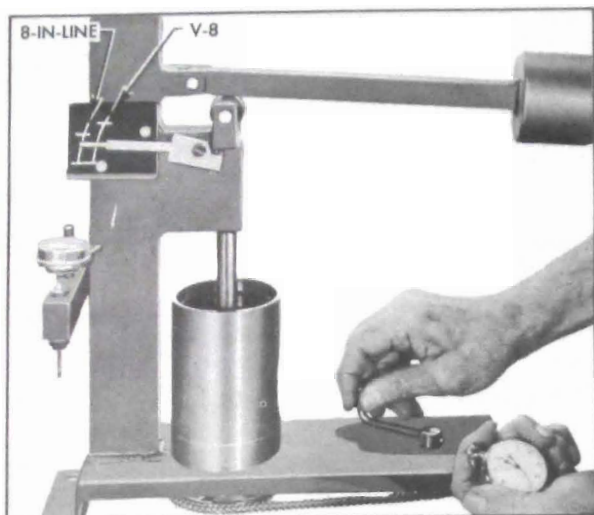

Figure 2-24—Checking Leakdown Rate
4. Lower the ram to rest in the lifter push rod seat, then lower the weight arm to rest on the roller of ram as shown in figure 2-24.
6. Raise weight arm to allow the lifter plunger to come up to its retainer, then lower the arm to rest on the ram roller. As the pointer starts moving upward start rotating the fluid cup by turning the handle one revolution every two seconds. See figure 2-24.
7. Use a stop watch to check the time required for the pointer to move from the lower to the upper mark on scale where marked "BUICK V-8." The cup must be rotated during this test. See figure 2-24.